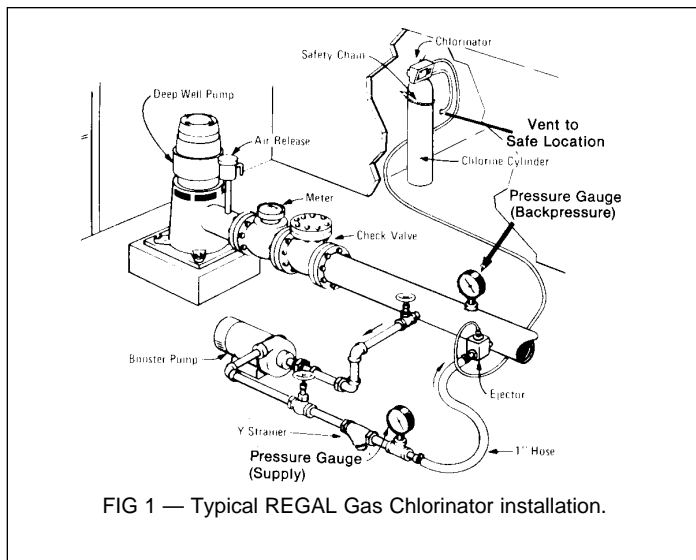

FIG 1 — Typical REGAL Gas Chlorinator installation.
- Backpressure is simply the total water pressure measured immediately downstream of the ejector outlet. In Figure 1, if a pressure gauge were to be installed between the ejector outlet and the water main, it would read the backpressure.
- Water "booster" pumps are commonly used to create a differential pressure by raising the system pressure and then passing the higher pressure water through the ejector and back into the system. (See Fig. 1) However, a booster pump is not always necessary to obtain the required differential pressure.
Example: Using a water treatment system as in Fig. 1, with a pressure in the water main at the ejector of 60 PSIG maximum (4.21 kg/cm²) and a desired chlorine feed rate of 18 PPD.